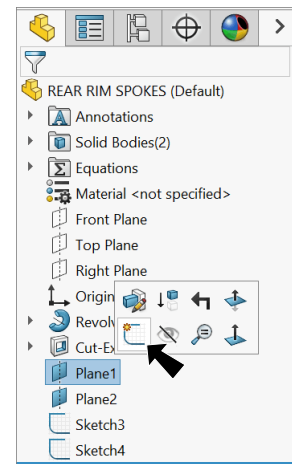

Fig. 31
Step 1. Click **Plane1**  in the Feature Manager and click **Sketch**  on the context toolbar, **Fig. 31**.